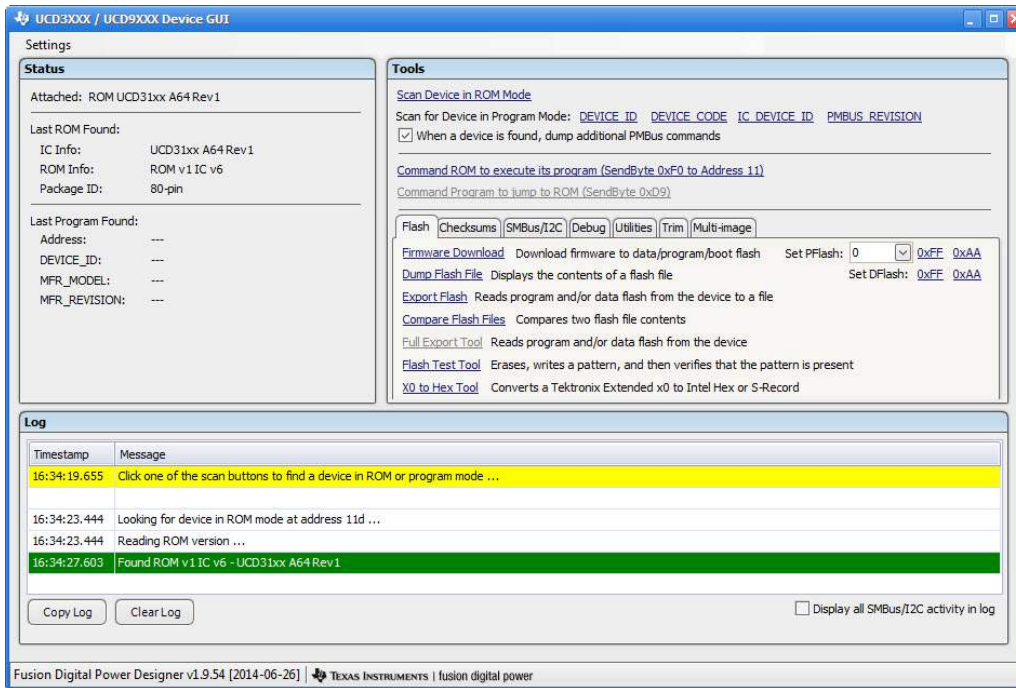

Figure 13. UCD31xx Device GUI
3. Launch the GUI by the steps described in 5.1.3. Wait until the window in **Figure 13** is shown.
4. Click "Scan Device in ROM Mode", then wait and check **Figure 13** on its "Log" and confirm "**Found ROM v1 IC v6 – UCD31xx A64 Rev 1**". If "Found ROM" not shown, Click "**Device ID**" then click "**Command Program to jump to ROM** (sendByte0xD9) and then click "**Scan Device in ROM Mode**" again.